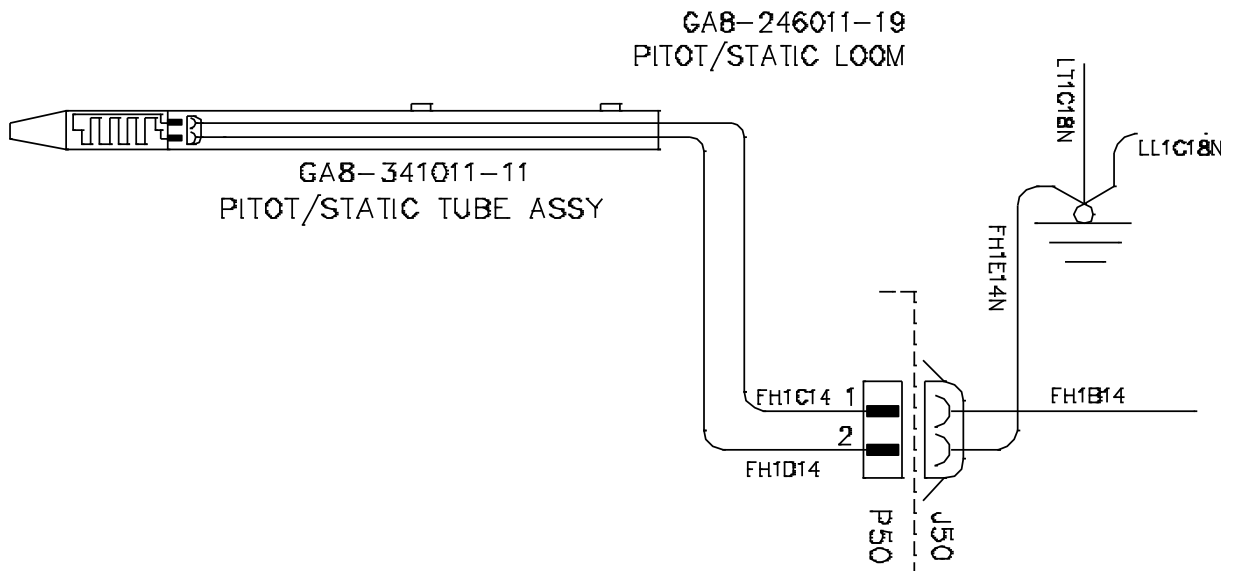
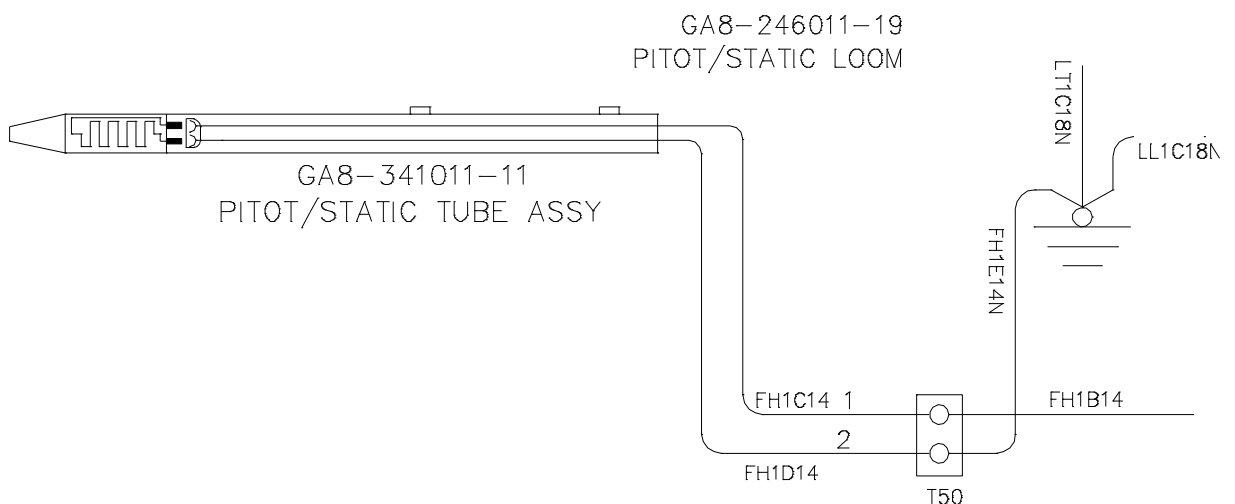

Figure 2 – Unmodified wiring to the pitot static tube assembly.
Figure 3 - Modified wiring to the pitot static tube assembly.
2. The standard aircraft wiring to the heated pitot is shown in Figure 2. The modified wiring is shown in Figure 3.